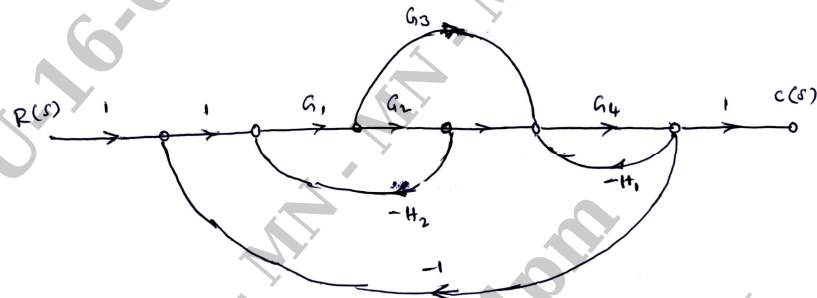

Fig.Q6(a)
- 6 a. For the system shown in Fig.Q6(a), determine $\frac{C(s)}{R(s)}$ using Mason's gain formula.